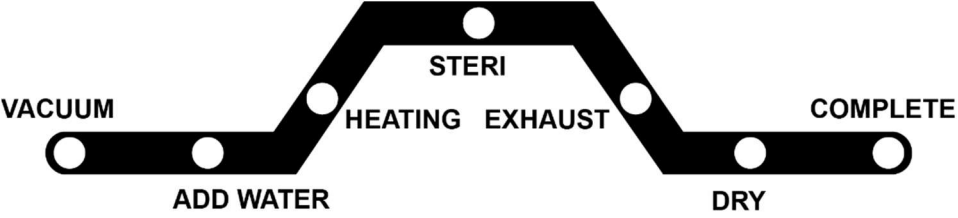

Figure 27
D. Press the “ START ” button . The sterilization temperature, sterilization time, and drying time will be displayed two times consecutively, and then the sterilizer will run the selected program automatically. The program execution status will be displayed on the status indicator, as shown in Figure 27.